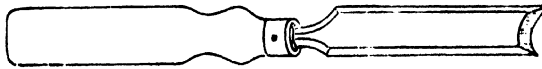

Fig. 100.
**Firmer Gouge.**—This tool is shown in Fig. 100.